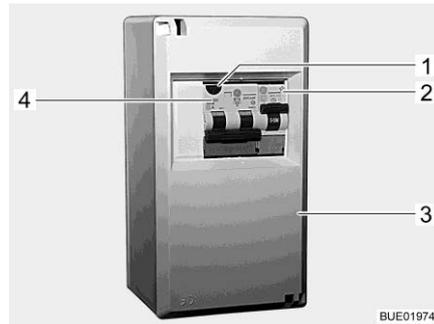
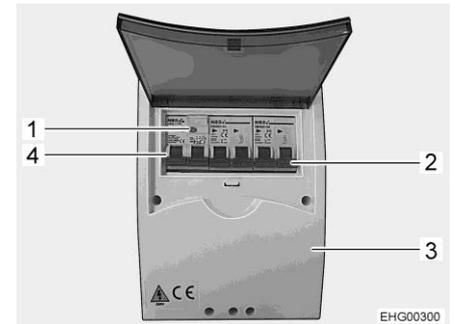

Fig. 196 230 V fuse box
Fig. 197 230 V fuse box (variant)
A combined fault current protection switch / safety cut-out (Fig. 196,4 or Fig. 197,4) in the fuse box (Fig. 196,3 or Fig. 197,3) protects the complete vehicle from fault current (0.03 A).
For vehicles with special equipment (e.g. air conditioning unit) an additional safety cut-out (10 A) (Fig. 196,2 or Fig. 197,2) secures the device.
- When the vehicle is connected to the 230 V power supply, press the test button (Fig. 196,1 or Fig. 197,1). The fault current protection switch must trip.